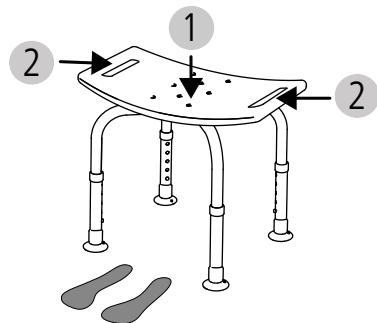

Abb. 5
1. The product can be adjusted in height. For this purpose, press in the spring-mounted buttons on the telescopic legs (Fig. 5, 1).
2. Adjust the telescopic legs to the desired length (Fig. 5, 2) until the spring head emerges from the hole again and locks in place (Fig. 5, 1).
1. Before raising the product, all suction feet must be detached from the floor. To do this, pull the nose of the suction foot (Fig. 5, 3).